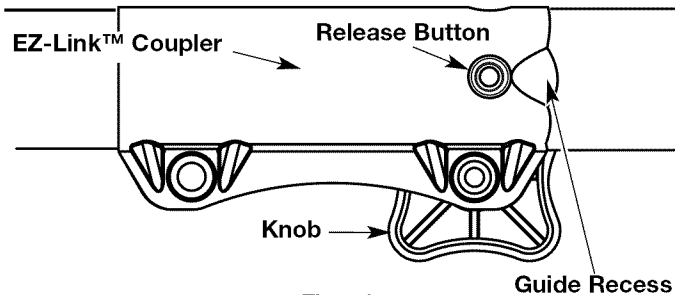

Fig. 16
1. Turn the knob counterclockwise to loosen (Fig. 16).
2. Press and hold the release button (Fig. 16).
1. Turn knob counterclockwise to loosen (Fig. 16).
**NOTE:** Aligning the release button with the guide recess will help installation (Fig. 16).